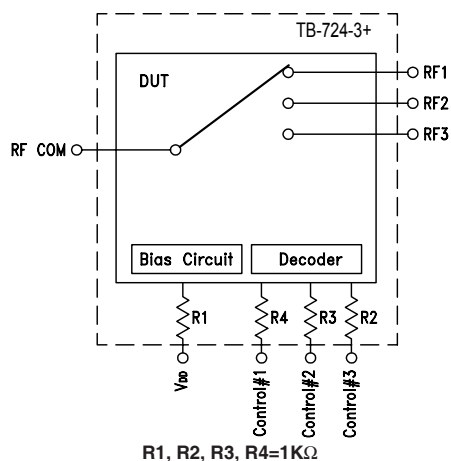

Figure 1: Block Diagram Of Test Circuit Used For Characterization. (DUT soldered on Mini-Circuits' TB-724-3+)
- As measured in Mini-Circuit's test board TB-724-3+ (see Characterization Test Circuit, Fig.1).